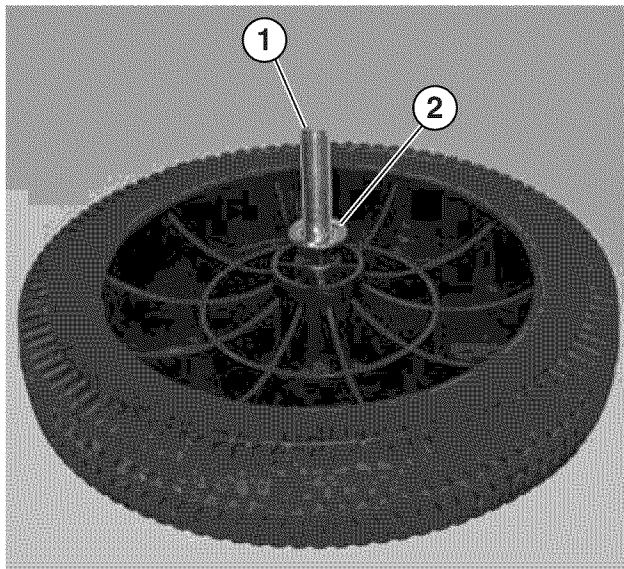

Figure 8 – Installing Outside Serrated Flange Nut
5. Install the M12 x 105 mm wheel axle flange bolt through the wheel (see Figure 8).
6. Thread the M12 serrated flange nut onto the bolt with serrated edges facing away from the wheel. Tighten the nut (see Figure 8).